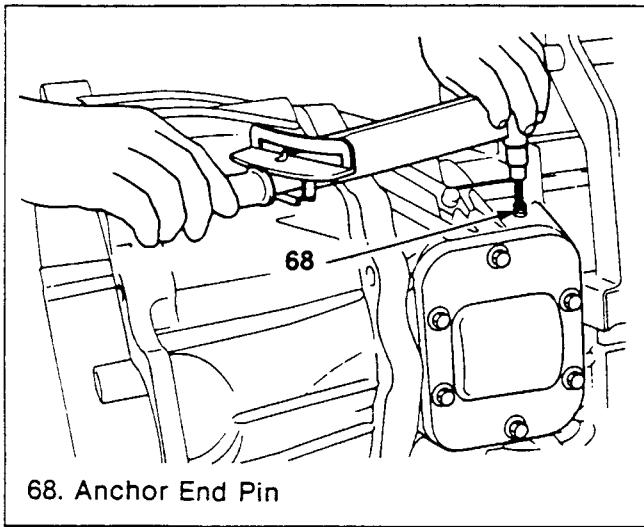

Figure 292. Brake Band Adjustment (1)
### Adjustment of the brake band (Figures 292, 293 and 294)
2. Loosen the lock nuts and fasten the anchor end pin (figure 292).